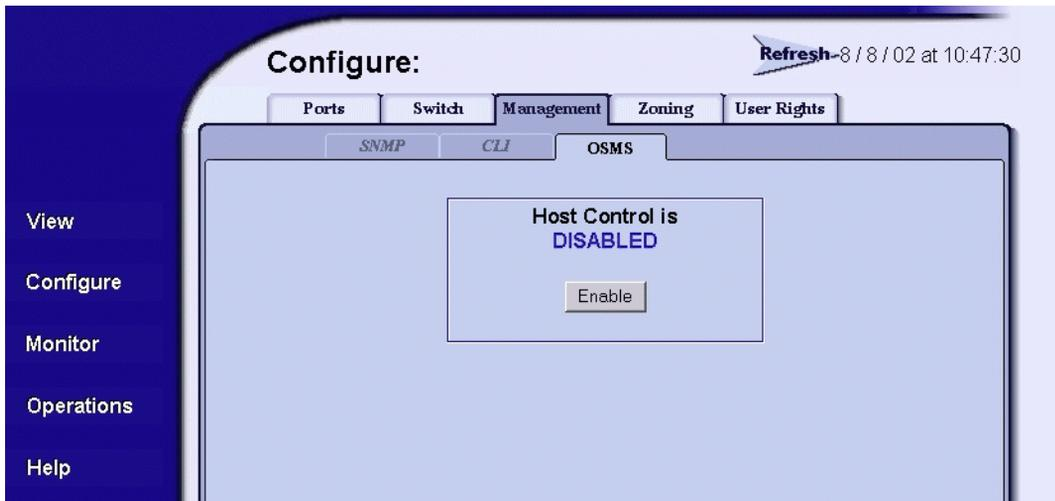

Figure 2-10: Enabling OSMS host control
2. Choose the **Management** tab and the **OSMS** tab. The **OSMS** tab view displays (Figure 2-10).